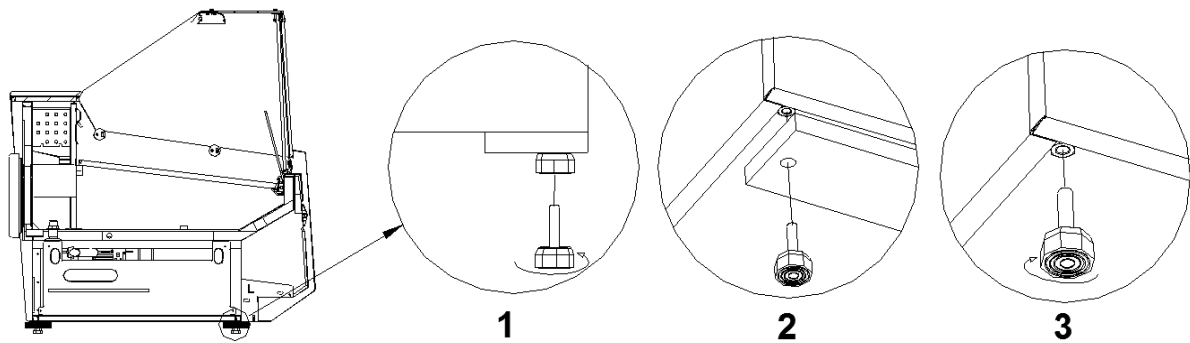

Fig.2 Removal of the wooden platform
| Fig.2 Removal of the wooden platform | 6 |
- Unpack the device and remove the wooden platform from the base (does not apply to mobile devices) Fig.2 \(p.6\).